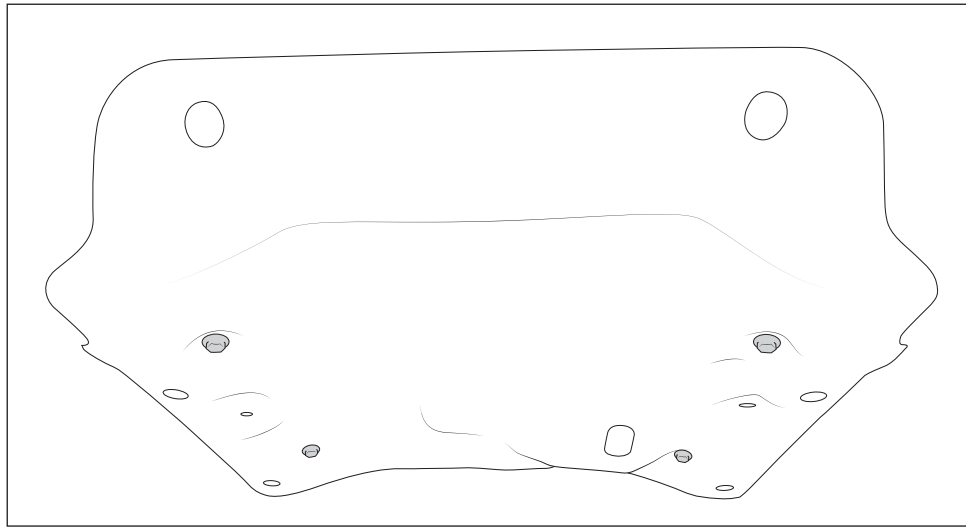

Figure 16
- E. Insert M12x25mm from bottom of skidplate into LCA brackets at all 4 locations and install flange nuts from the top (fig. 16).